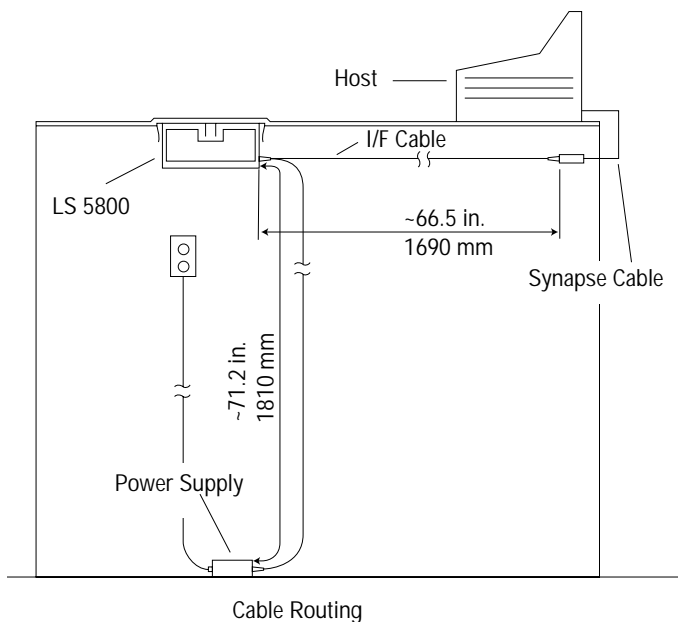

Figure 2. Typical LS 5800 Installation
Figure 2 shows a typical LS 5800 installation. For best operating results, locate the power supply at least 4 in. (10.16 cm) below the scanner chassis or 2 in. (5.08 cm) away laterally.
4. Route the cables from beneath the bucket and attach to the scanner as shown in Figure 2.
6. Route the cables from beneath the bucket and attach to the scanner as shown in Figure 2.
2. Route the cables from beneath the hole and attach to the scanner as shown in Figure 2.
4. Route the cables from beneath the hole and attach to the scanner as shown in Figure 2.
3. Route the cables from beneath the hole and attach to the scanner as shown in Figure 2.